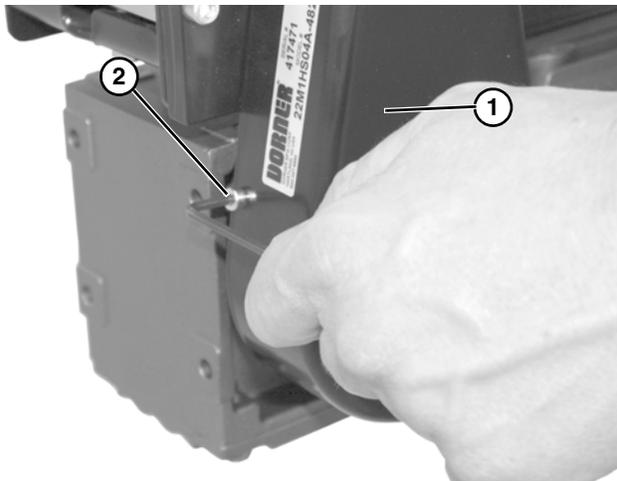

Figure 11
9. Install cover (Figure 11, item 1) with four (4) screws (Figure 11, item 2). Tighten screws to 35 in-lb (4 Nm).